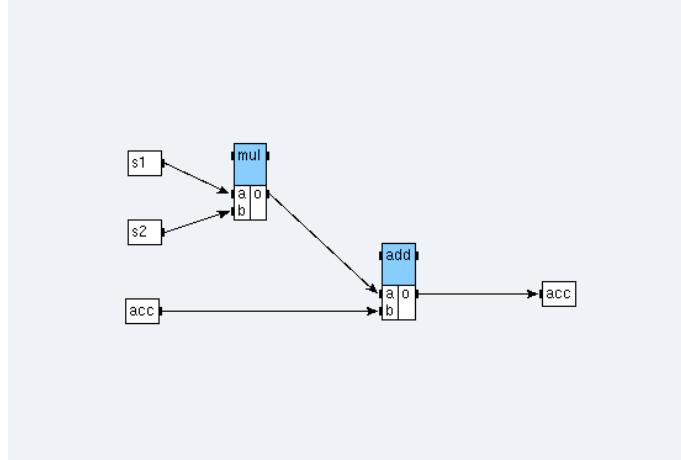

Figure 4.6: Algorithm of the function `dpacc`
- then create dependences to obtain an algorithm (*cf. figure 4.6*).